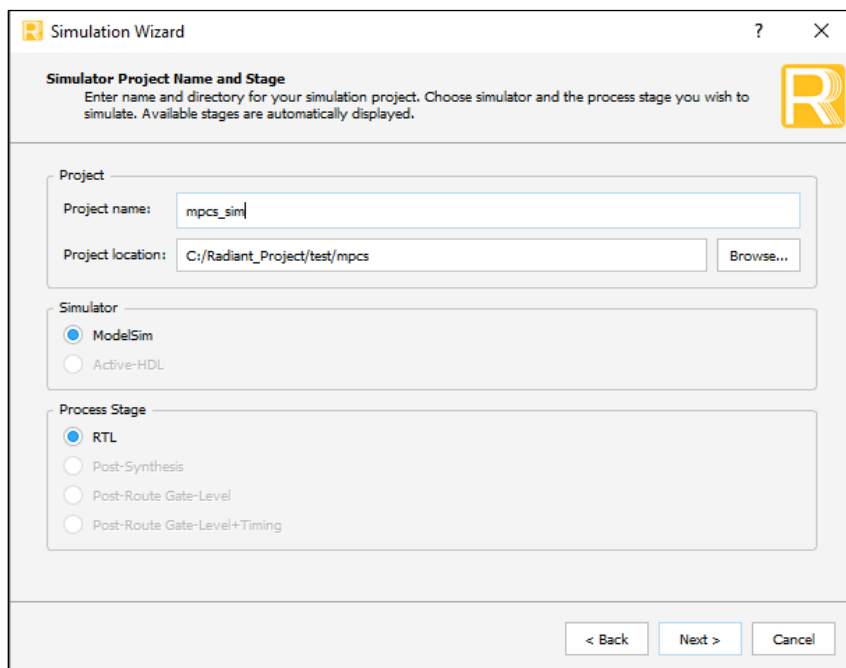

Figure 6.1. Simulation Wizard
1. Click the  button located on the **Toolbar** to initiate the **Simulation Wizard**, as shown in Figure 6.1.